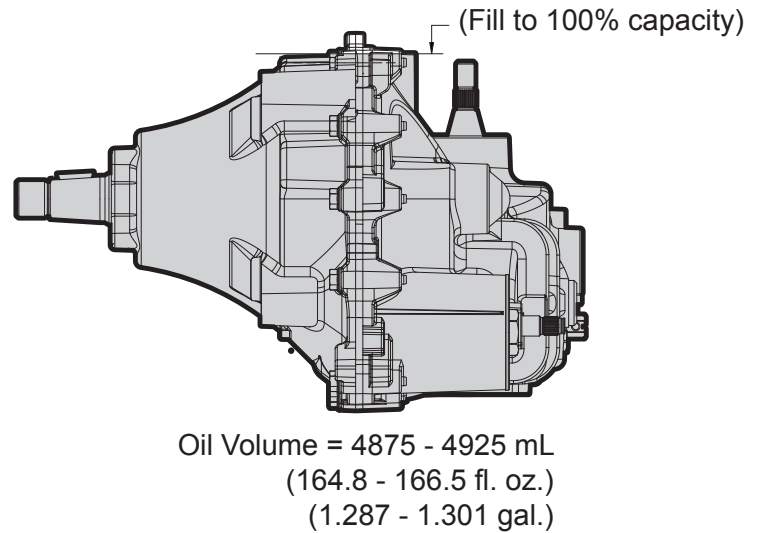

Figure 3, Oil Volume
2. Check oil level in accordance with Figure 3 Page 10.
Certain situations may require additional fluid to be added or even replaced. Refer to Page 10, Figure 3 and page 5 for the proper fill port location.